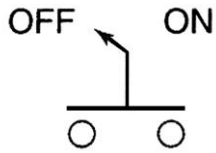

Figure 6-5 Symbol for question 8.
8. The device represented by the symbol of Figure 6-5 is a 8._____